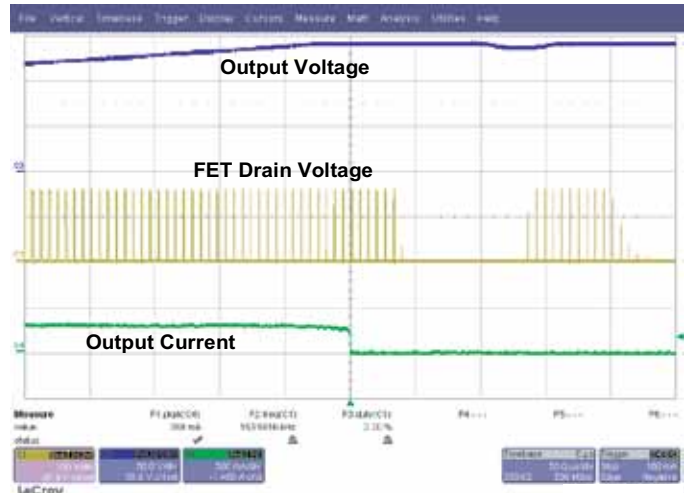

Fig.6 Open LED Protection
4. Open LED Protection: Open LED protection is inherent for the buck converter, as the maximum output voltage is limited to the input voltage. Fig.6 shows the output voltage, LED current, and the drain voltage of the switching FET when the load is disconnected during normal operation. The FET is always turned on during this time and the output voltage is equal to the input voltage. If the output voltage sags due to current leakage, the FET resumes switching until the input and output voltages become equal.